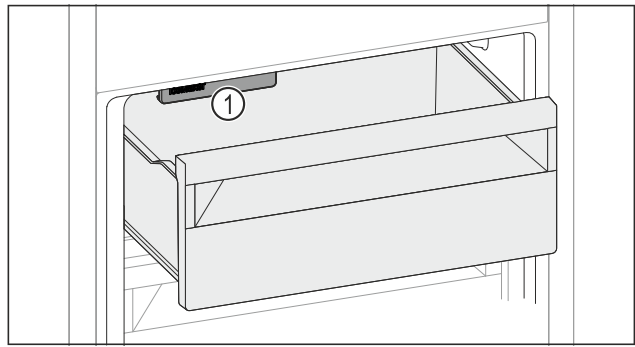

Fig. 113
- ▶ Watch out for the IceMaker *Fig. 113 (1)*.